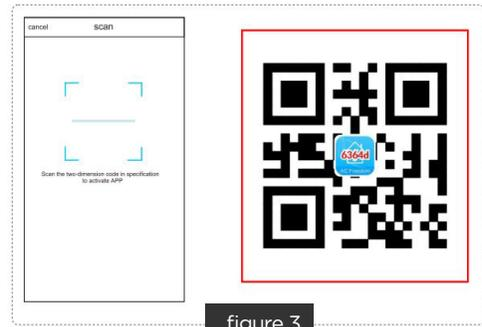

figure 3
1. By clicking “scan” and scanning the QR code on the right .(See Fig.3)